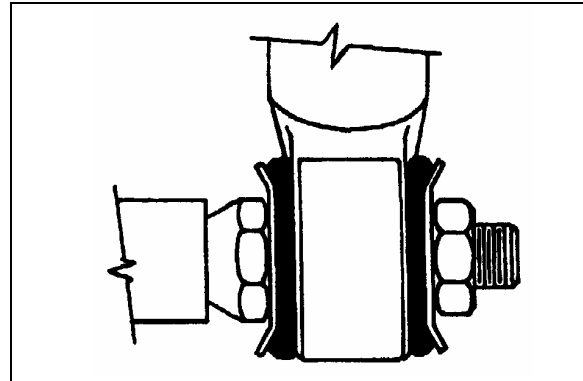

FIGURE 33: TYPICAL SHOCK ABSORBER SETUP 16009
- Place the inner washers (with washer convex side facing the shock absorber rubber bushing) on each shock absorber pin (Fig. 33).